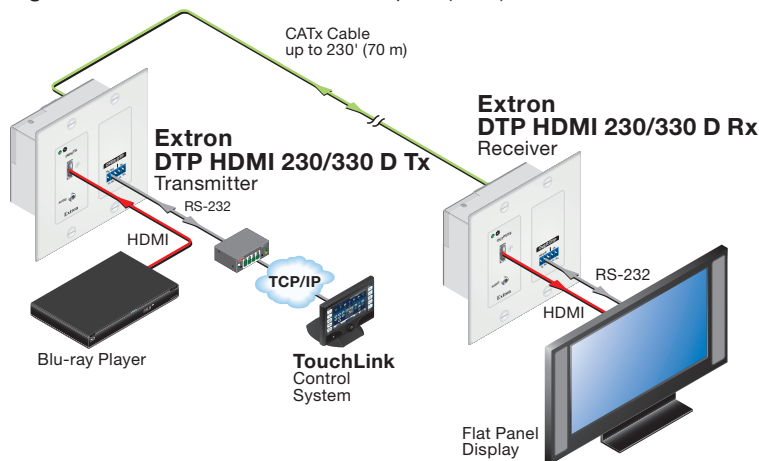

Figure 1. Typical Transmitter and Receiver Application
The Extron DTP HDMI 230 and 330 D extenders are a family of HDMI transmitters and receivers (see figure 1) which are housed in enclosures that can be mounted in Underwriters Laboratories (UL) standard wall boxes with Decora®-style face plates. A transmitter and receiver pair extends the usable distance of HDMI digital video and RS-232 or IR control signals over one shielded twisted pair (STP) cable.